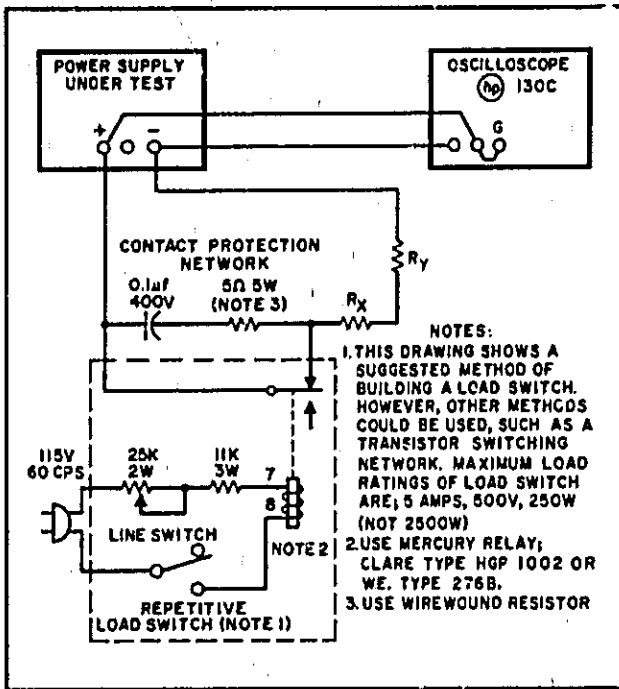

Figure 5-6. Transient Recovery Time, Test Setup
5-29 A mercury-wetted relay, as connected in the load switching circuit of Figure 5-6 should be used for loading and unloading the supply. When this load switch is connected to a 60Hz ac input, the mercury-wetted relay will open and close 60 times per second. Adjustment of the 25K control permits adjustment of the duty cycle of the load current switching and reduction in jitter of the oscilloscope display.
5-30 The maximum load ratings listed in Figure 5-6 must be observed in order to preserve the mercury-wetted relay contacts. Switching of larger load currents can be accomplished with mercury pool relays; with this technique fast rise times can still be obtained, but the large inertia of mercury pool relays limits the maximum repetition rate of load switching and makes the clear display of the transient recovery characteristic on an oscilloscope more difficult.
- Connect test setup shown in Figure 5-6.